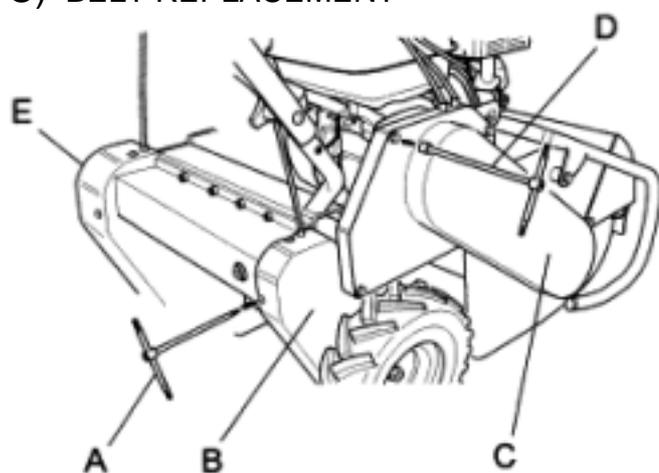

Fig. 6
- Remove the plastic guard (fig. 6 ref. B, E), by undoing and removing the fixing screws using the wrench illustrated in 6 ref. A.
- Remove the plastic guard (fig. 6 ref.C), by undoing and removing the fixing screws using the wrench illustrated in 6 ref. D.
- Remove the plastic guard (fig. 6 ref.C) by undoing and removing the fixing screws using the wrench illustrated in figure 6 ref. D.
- The belt guards (Fig. 6 ref.B,C, E) and flail guards (Fig. 1 ref. E) must always be correctly installed and intact. If they become damaged, have them repaired before the machine is used again.
- Clean the inside of the belt guard (fig. 6, ref.C, D, E) with a blast of compressed air.